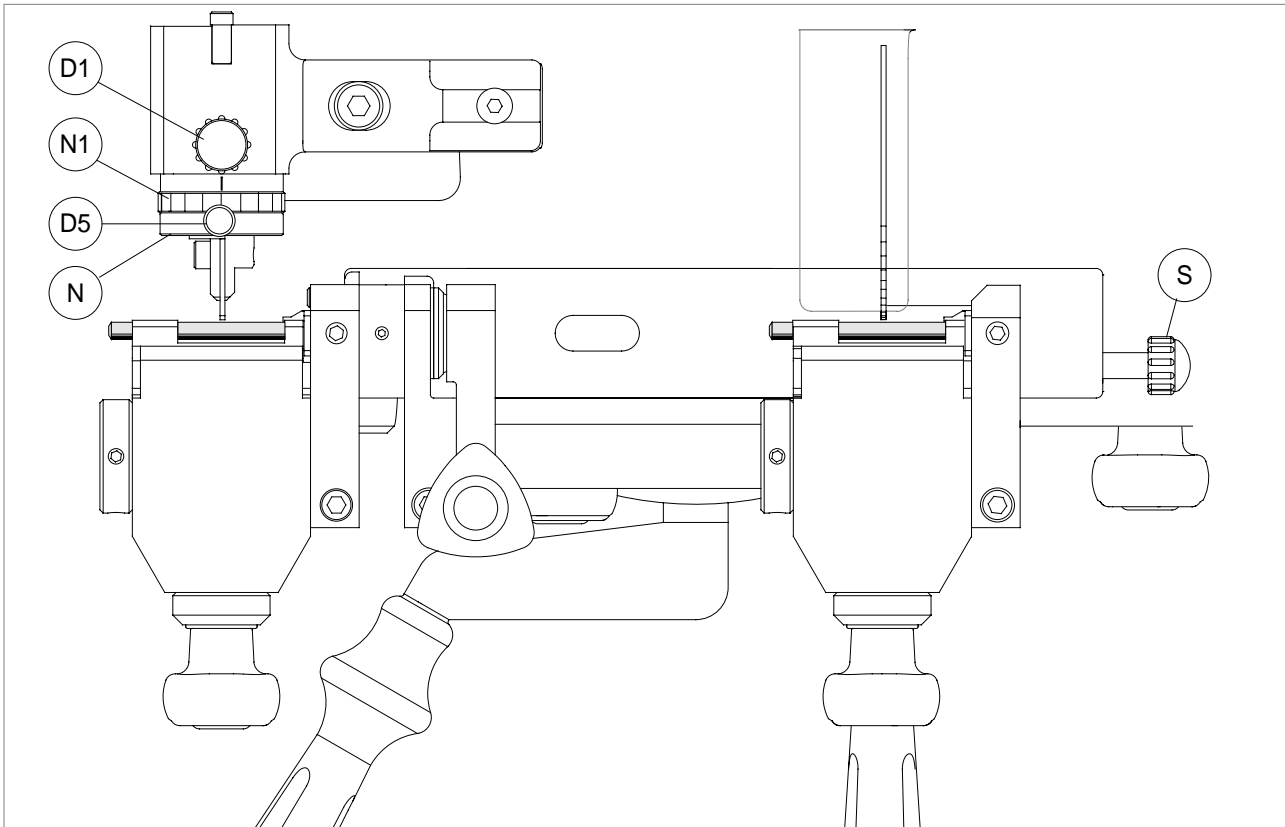

Fig. 17
- 2) Use the knob (S) to lock the right-hand clamp in a horizontal position;
- 3) Place the adjusting pins (provided) on the clamps (fig. 17);
- 5) Release knob (D5) placed on ring nut (N).
- 6) Raise the carriage and take the setting pins into contact with the tracer point and cutting tool (fig. 17).
- c) turn the nut (N) clockwise to advance the tracer point (cut less deep).
- d) turn the nut (N) anticlockwise to move the tracer point back (cut more deep).
- 10) Once obtained the correct gauging, lock ring nut (N) by tightening knob (D5).
- 11) After having locked ring nut (N) turn the other ring nut (N1) until the red indicator is aligned with the notch on the tracer point.